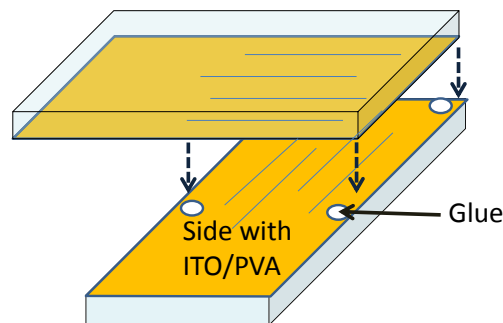

Figure 10: Defining LCD pixel area and fastening of slides together with glue.
**Step (2)** With the assistance of the TAs at the gluing station, put **tiny** drops of super glue on the four corners that will define your LCD pixel, as shown in Figure 10. Drop size of 0.5 mm x 0.5 mm will be more than enough. The standard LCD crystal has spacers (which are usually microspheres) to define the space between the two slides. In our case, the glue will also act as the spacer. Press the slides together firmly and let your pixel dry for 5 minutes.